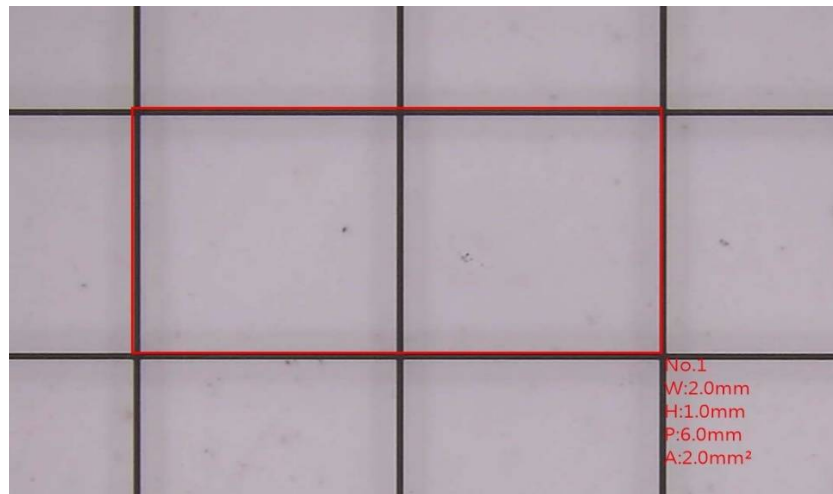

Fig.5-6 Rectangle measurement
- (2) Rectangle : The object is quadrilateral that can apply  tool as Fig. 5-6. The Rectangle tool can measure and show rectangular circumference (P=6.0 mm), Horizontal length (W=2.0mm), Vertical length (H=1.0 mm), Rectangular area (A=2.0 mm²).